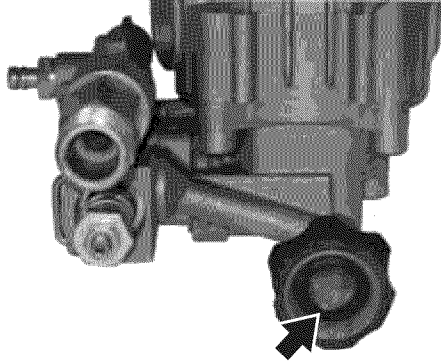

Figure 36 – Water Filter Screen
2. Remove the cone-shaped water filter screen from the water inlet hose fitting (see Figure 36).